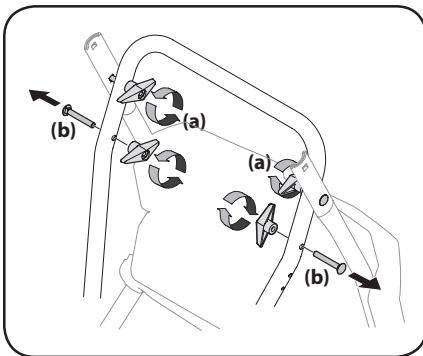
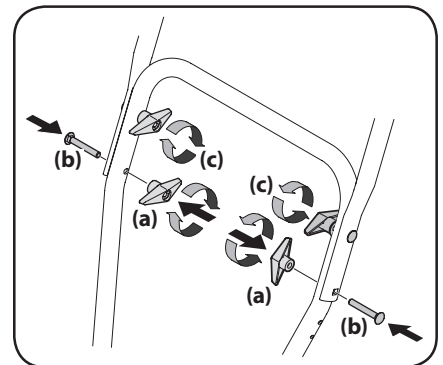

Figure 2-3
Figure 2-7
3. On select units, loosen the top wing nuts (a) securing the upper and lower handle and remove the two carriage screws (b) from the lower handle and set aside as shown in Figure 2-3.
8. On units with the handle set-up shown in Figure 2-3, attach the two carriage screws (b) and wing nuts (a) removed in Step 3. Finish securing the handle by tightening the top two wing nuts (c) loosened in Step 3. See Figure 2-7.